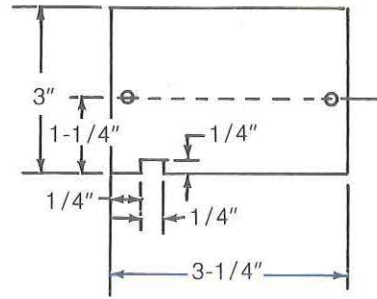

Figure 2. Field Supplied Duct Hole Cover Plate
2. Fabricate a cover as shown in Figure 2.